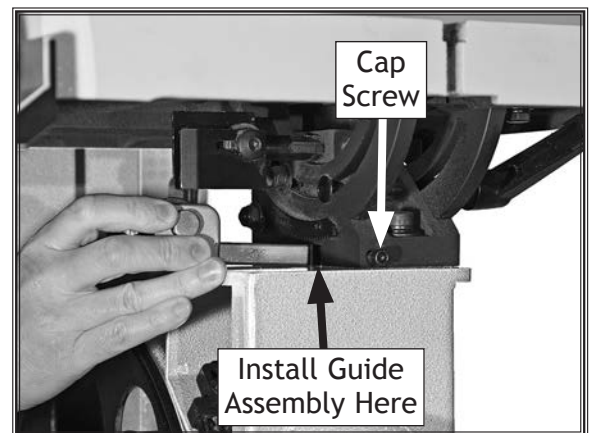

Figure 53. Installing lower roller bearing guide bearing assembly.
5. Loosen cap screw shown in **Figure 53**, remove lower "Euro-Style" roller-disc guide assembly, and replace it with lower blade guide bearing assembly.